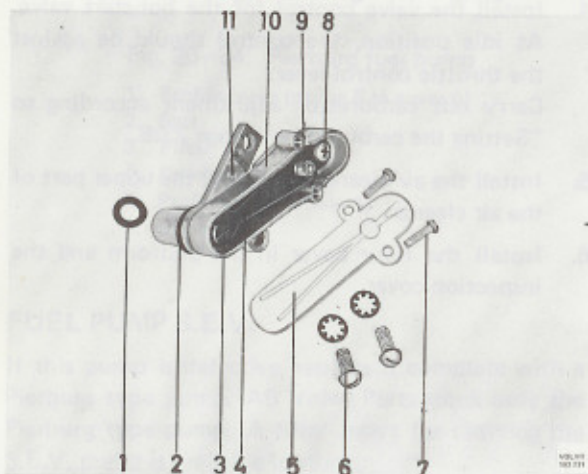

Fig. 23–30. Temperature compensator
The temperature compensator is replaced complete. It is removed from the carburettor by unscrewing the screws (6, Fig. 23–30). Take out the old seal (1) from the carburettor and fit a new one. Place a new seal (2) on the temperature compensator and fit the compensator. The temperature compensator is marked "60" (11).
7. Fix the fixture in a vice and fit the carburettor on the fixture, Fig. 23–31. Make sure that the fixture pin holes are in line with the holes in the spindle bushings.